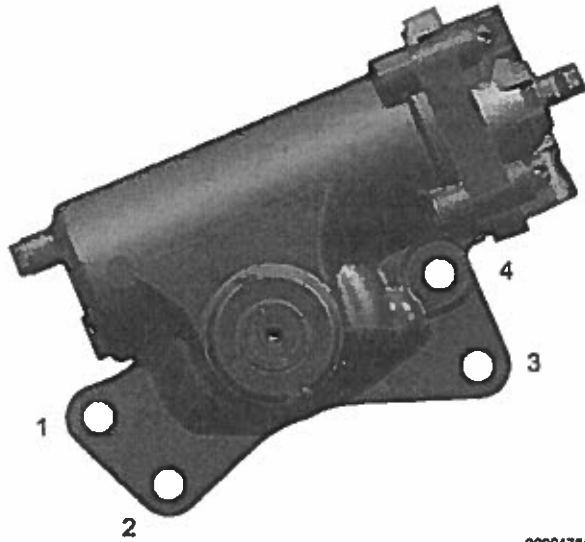

Figure 1. Steering Gear Bolt Mounting Locations.
7. Using steering gear reference (Figure 1, Items 1 - 4 and Table 6) and an abrasive material, remove paint from thread end of bolt and inspect color:
35. Using steering gear reference (Figure 1, Items 1 - 4 and Table 6) and an abrasive material, remove paint from bolt and inspect color: